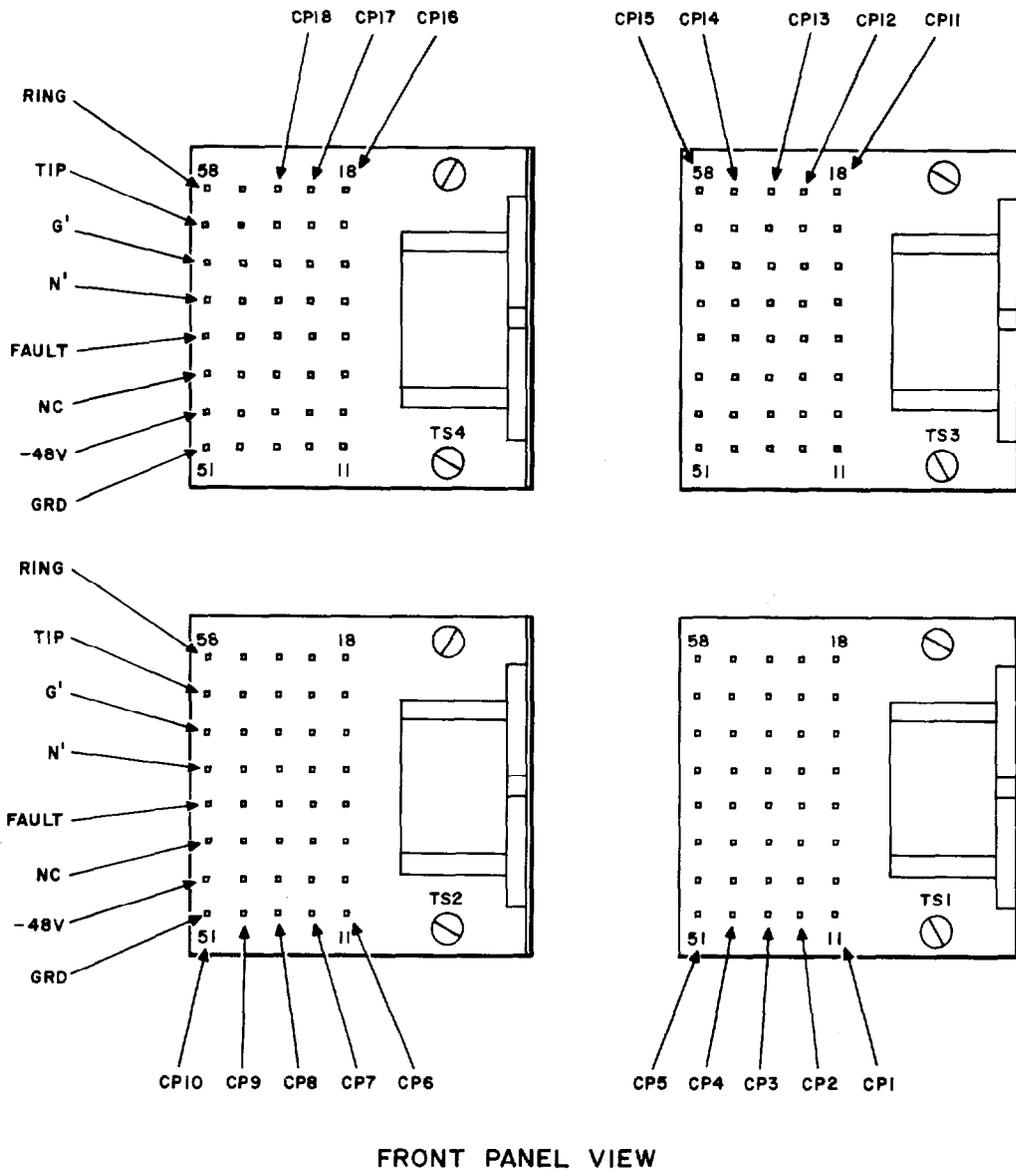
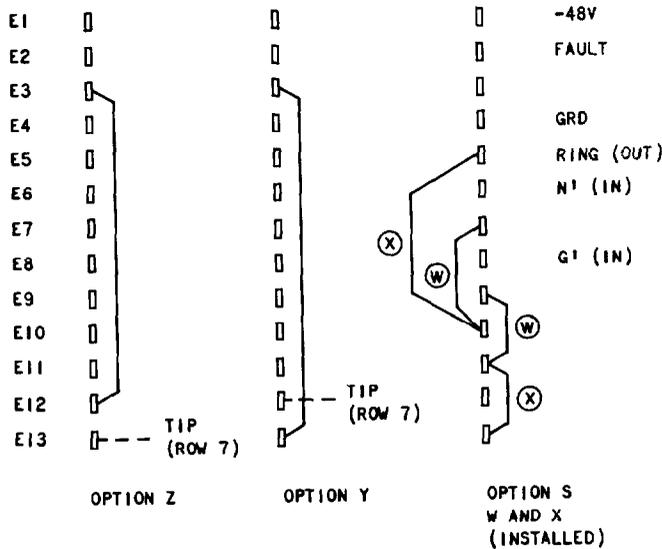

Fig. 1—233C Mounting Plate—D5A Terminal Identification
Fig. 3—Interface Driver—Terminal and Option Identification
2.02 Terminal identification information for the D5A terminal strips used on the 233C mounting plate and the 43A1 data mounting is given in Fig. 1 and 2. Terminals are designated by a 2-digit number; the first digit denoting the column and the second the row. When viewed from the front panel, columns are numbered from right to left and rows from bottom to top. Terminal identification is given in Fig. 3 for the interface drivers [AE45
(c) Connect, in sequence, all terminals in row 1 on front of TS1 through TS4 (Fig. 1).
(e) Install options for interface drivers (Fig. 3).